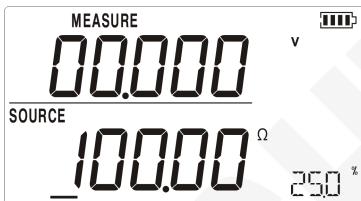

Figure 4.5-3
Press  to select **SOURCE** mode. If necessary, press  to select resistance function with the unit of  $\Omega$ . The connecting type is the same as DC V measurement. Press  to switch resistance output range. (Resistance source includes 400  $\Omega$  range and 3200  $\Omega$  range, as shown in Figure 4.5-3 and Figure 4.5-4 )
*Attention: The Figure 4.5-3 is 400  $\Omega$  range and the Figure 4.5-4 is 3200  $\Omega$  range.*